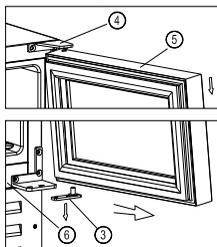

Figure 2
2. Pull down to remove the glass door and place it on a padded surface to prevent scratching it. (Figure 2)